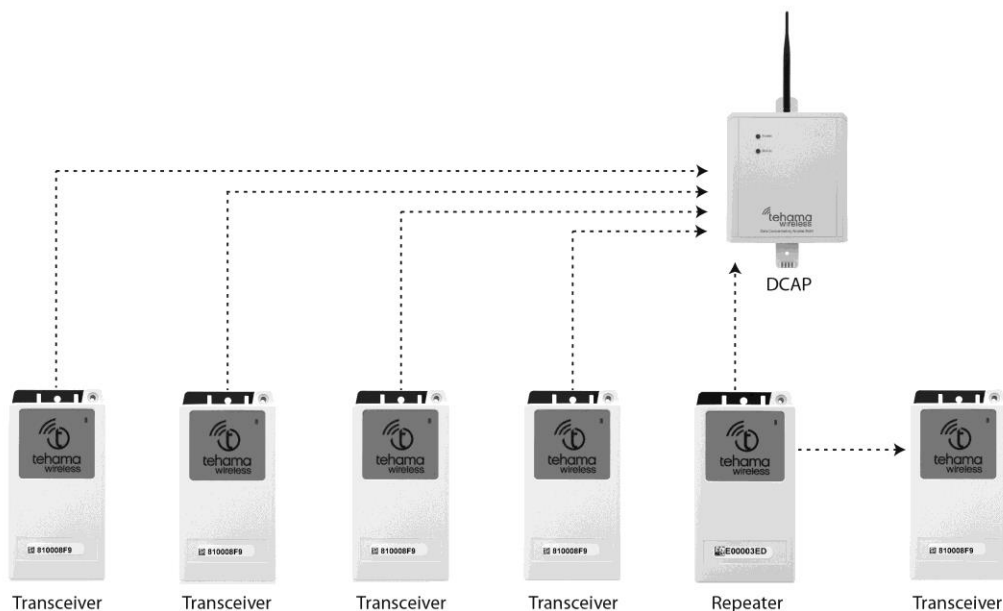

Figure 5: Wireless Network consisting of MDTs, Repeater, DCAP
5. Following all national and local electric codes, connect wires to appropriate locations in the load center. Wires should be tightened so that they are held snugly in place, but do not to over-tighten, as this may compress and weaken the conductor. See figure 5 for Mini Meter wiring diagram.
- Current and voltage inputs must be installed 'in phase' for accurate readings (e.g. CT1 on Line 1, CT2 on Line 2); see Figure 5.
Failure to install CTs in the correct orientation and on the correct phase will lead to inaccurate meter readings. The Mini Meter wiring diagram is shown in Figure 5.